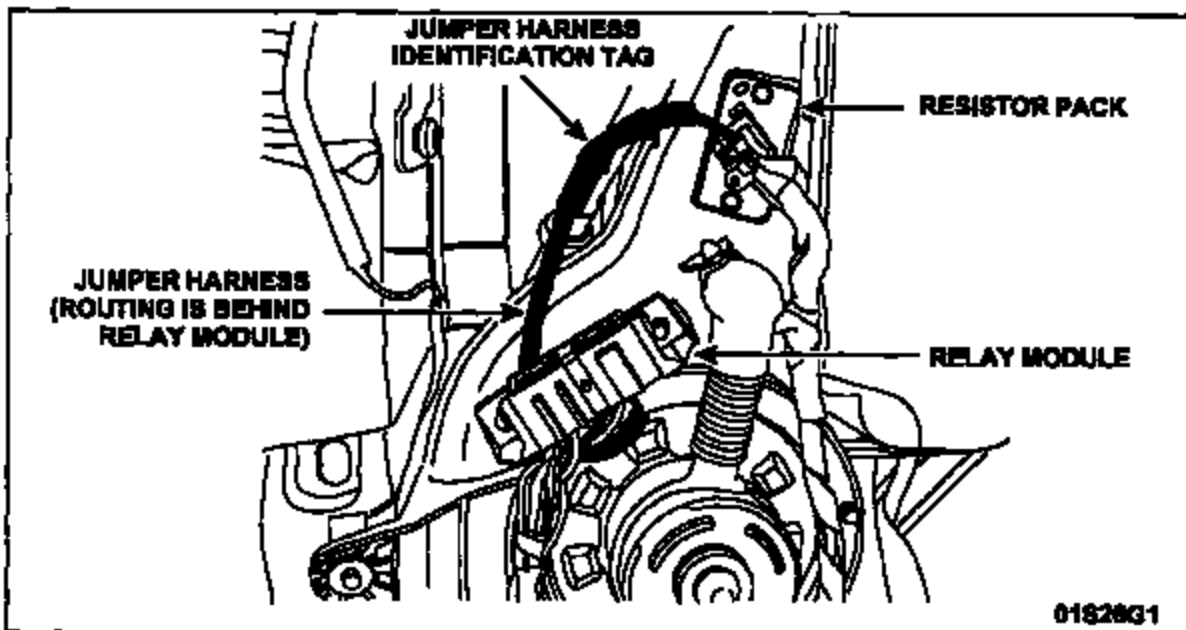

FIGURE 7
5. Route the jumper harness behind the relay module before installing the module. See Figure 7.